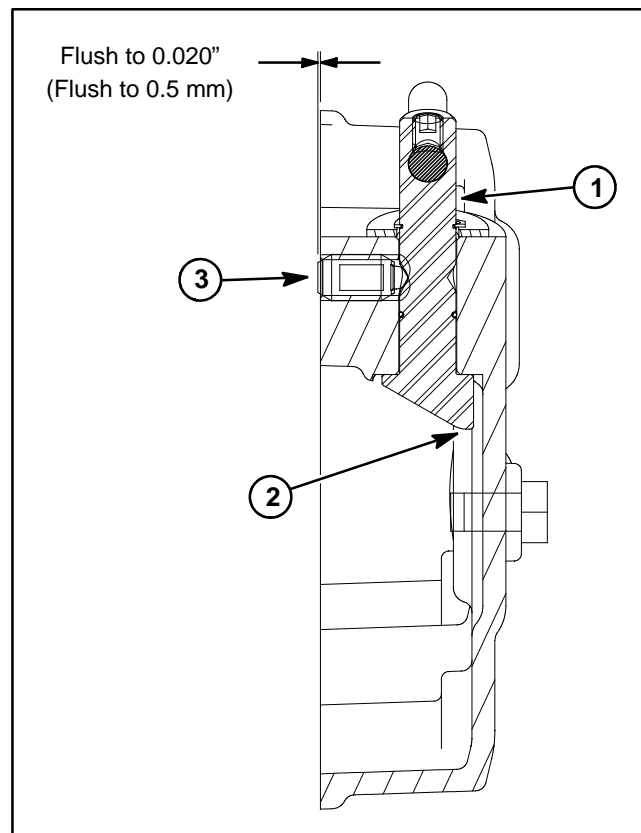

Figure 6
C. Slide shaft up through bore of cover and secure with thrust washer and retaining ring. Position shaft in cover so that cam point of shaft is located away from the gasket surface (Fig. 6).
D. Install plunger detent into groomer cover so that end of plunger is flush to 0.020" (0.5 mm) extending from cover surface (Fig. 6).